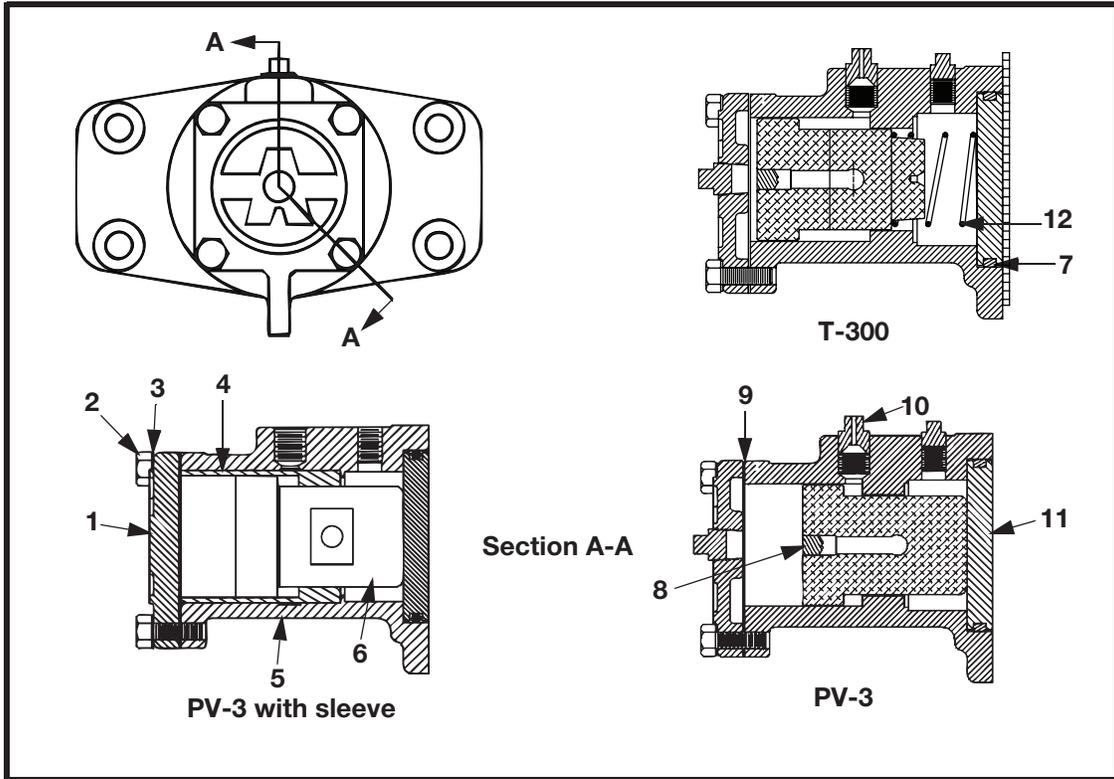

Figure 12. Martin® PV-3 (P/N 21287 or 23990) Piston Vibrator or Thumper™ T-300 (P/N 21572) Timed Impactor Assemblies
- Martin® Thumper™ T-300 Timed Impactor Assembly:** P/N 21572. See Figure 12.